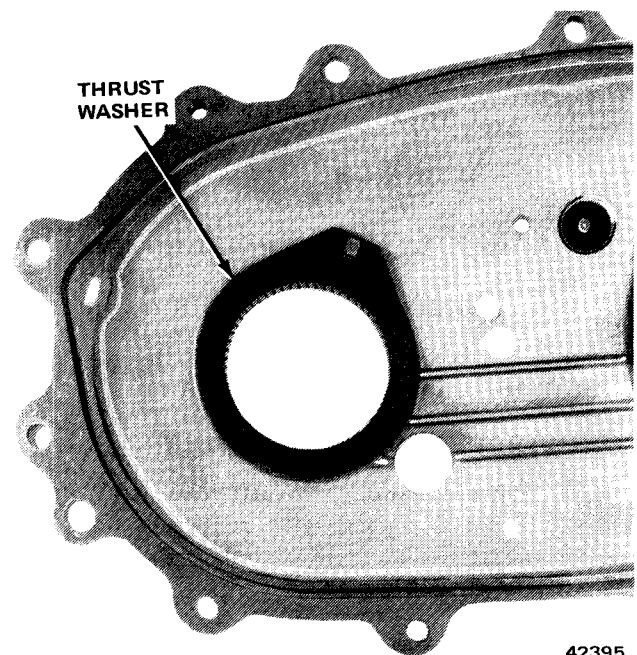

Fig. 8-44 Drive Sprocket Thrust Washer in Position on Case Cover
(4) Insert rear output shaft into differential.
(5) Move lockup hub rearward in case cover. Lubricate drive sprocket thrust washer with petroleum jelly and position on case cover (fig. 8-44).
(6) Align and position case cover on drive sprocket and differential. Output shaft may require slight rotation to align with lockup hub. Be sure drive sprocket thrust washer is not displaced.
(7) If equipped with reduction unit, install pinion cage on drive sprocket rear splines. Be sure snap ring seats completely in groove.
(8) If not equipped with reduction unit, assemble drive hub, drive sleeve, and snap ring, and install on drive sprocket rear splines. Be sure snap ring seats completely in groove.